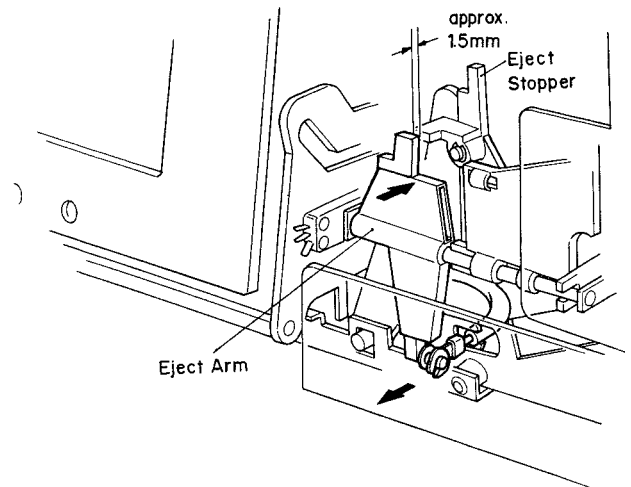

Fig. 4.21
- (1) Referring to Fig. 4.21, insert a 1.5 mm spacer between the Eject Arm and Eject Stopper by turning the Eject Arm in the illustrated direction, then set the N-482Z in Playback mode.